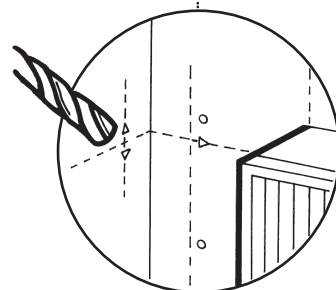

Fig. 44
12. Cut a hole approximately 107mm (4¹/₄ in) diameter in the masonry for the 100mm (4 in) diameter flue duct (Fig. 44). (Use of a core drill is recommended. When using a core drill, it is important to keep the drill level and square, particularly with the wall onto which the boiler is to be fitted).